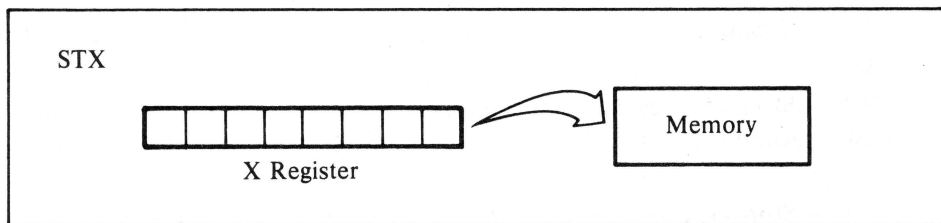

Figure 8-3. Store X register in memory
- STX — Stores the value in the X register into a specified memory location. This works like STA, but operates using the X register (see Figure 8-3).